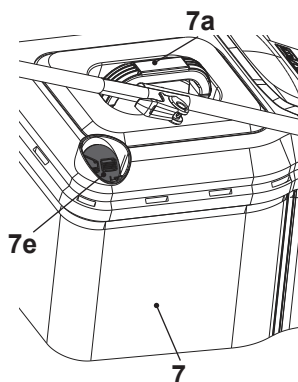

Fig. 16
2. When the hatch (7e) is closed, the grass catcher is full and must be emptied (Fig. 16).